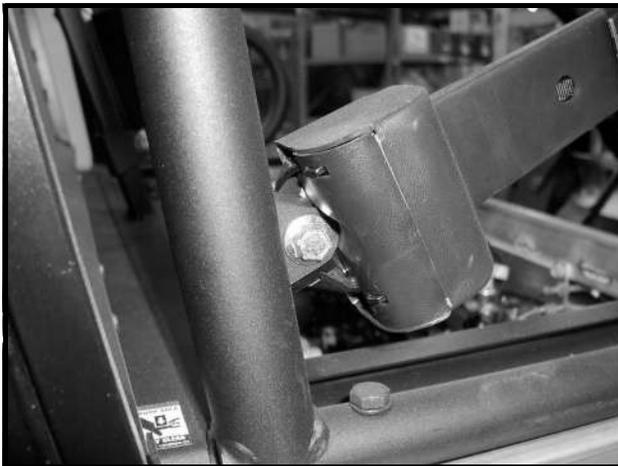

Figure 4-5 Coiled Seat Belt Assembly
1. Remove the bolt from the base of the coiled safety belt assembly (outside location) (Figure 4-5, Page 4-8).